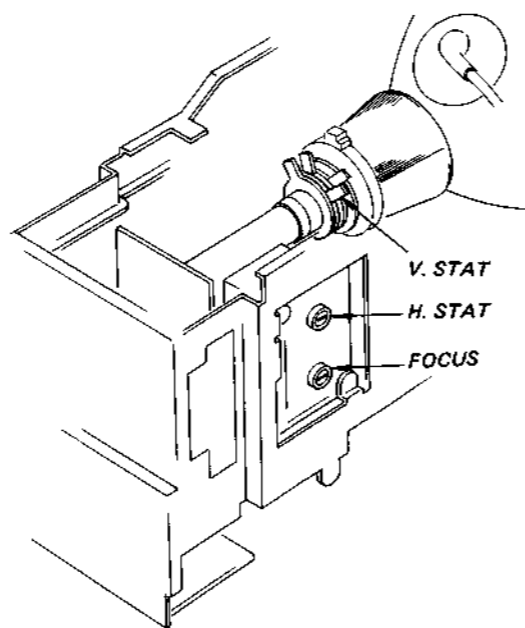

Fig. 3-7.
- 4) Adjust FOCUS control for best focus. (Fig. 3-7.)